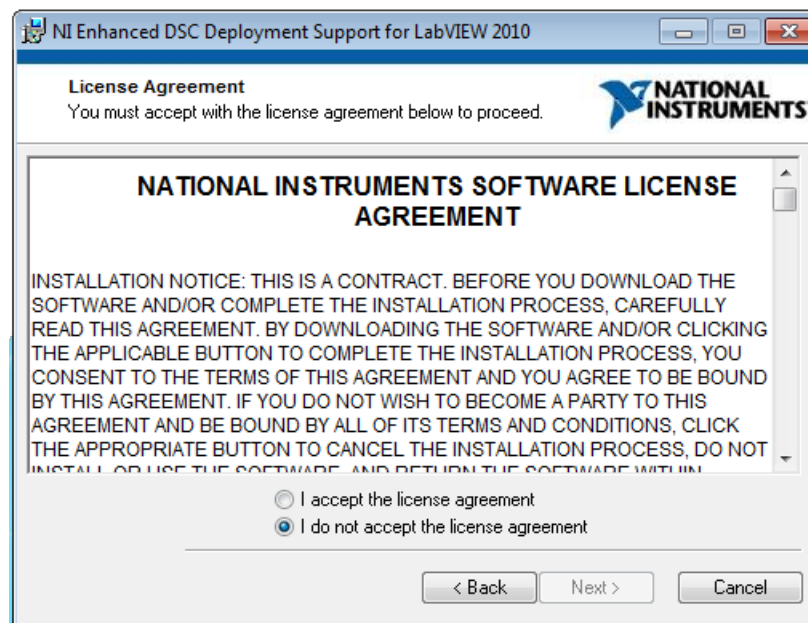

Figure 26. LabVIEW RTE License Agreement
4. The License Agreement appears as shown in Figure 26. Read through the agreement carefully and enable the "I Accept the License Agreement" radio button, then press the *Next >* button.